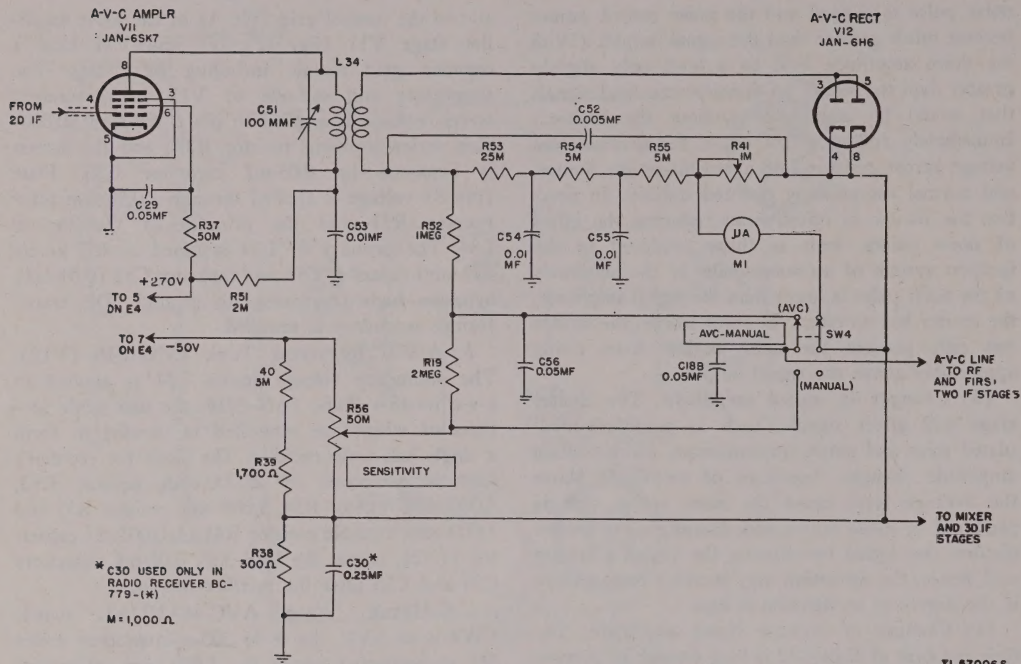

Figure 31. Radio Receiver BC-779-B, functional diagram of a-v-c stages.
a. *MIXER TUBE JAN-6L7.* For simplicity, capacitor C71, main tuning ganged capacitor C1C, and band spread ganged capacitor C2C are represented as a single variable capacitor C across the inductance trimmed secondary of r-f transformer L18. Signal voltages across C are applied through 600-mmf capacitor C11 to signal grid G1 (top cap) of pentagrid mixer Tube JAN-6L7. Fixed bias from the voltage divider (fig. 31) is applied through a filter circuit (10,000-ohm resistor R10 and 0.01-mf capacitor C12) and 500,000-ohm grid resistor R9 to the signal grid. Screen grid G2 and G4 (pin 4) forms a screen about injection grid G3 (pin 5), and the h-f oscillator output is coupled through 95-mmf capacitor C13 to the injection grid. Since the screen grid shields the signal and injection grids from one another, the tube electron stream is modulated independently by the r-f and oscillator signals. Heterodyne action produces sum and difference frequencies in the mixer output. The primary of transformer T1 is tuned by C21 to the 465-kc difference frequency to which the i-f amplifier is also tuned. The i-f voltage across the secondary winding of transformer T1 is applied to the crystal filter.
65. A-V-C Circuit (fig. 31)
and to the control grid (pin 4) of the a-v-c amplifier stage V11 (fig. 31). V7 and V11 have a common grid circuit, including fixed bias. The suppressor and cathode of V11 are grounded; screen voltage is applied to pin 6 through 50,000-ohm series-dropping resistor R37; and the screen is bypassed by 0.05-mf capacitor C29. Plate (pin 8) voltage is applied through 2,000-ohm filter resistor R51 and the primary of transformer L34. The primary of L34 is tuned to 465 kc by 100-mmfd capacitor C51, and capacitor C53 (0.01-mf) bypasses high frequencies to ground. The transformer secondary is untuned.